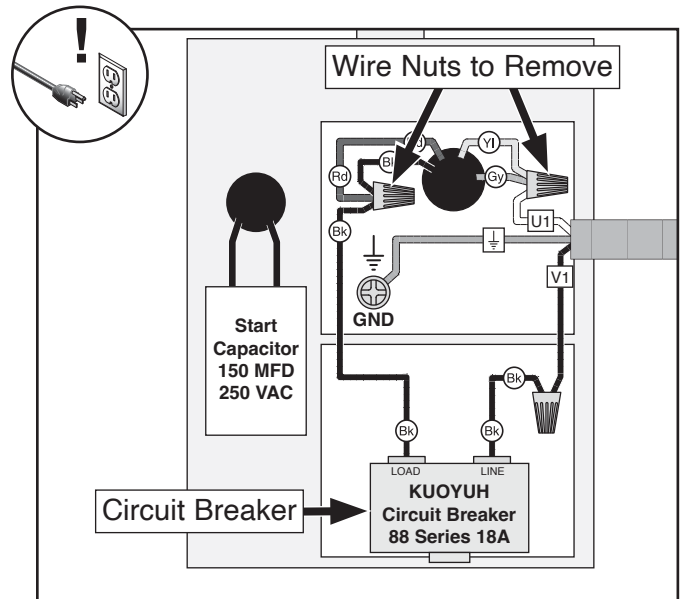

Figure 10. Main motor wired for 115V.
4. Replace 18A circuit breaker with 10A circuit breaker (see **Figure 10**).
5. Remove (2) wire nuts shown in **Figure 10**.